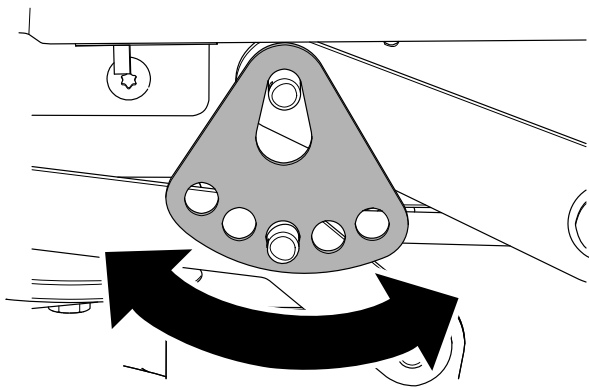

Figure 65
7. Rotate the height-of-cut plate to a different hole so that it supports the weight of the mower deck after you install the plate (Figure 65).
8. Install the washer and hairpin cotter (Figure 65).